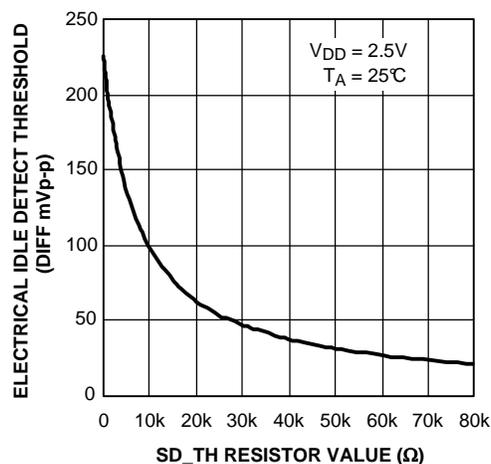

Figure 1. Typical Idle threshold vs SD_TH resistor value
(1) SD_TH resistor value can be set from 0 through 80K Ohms to achieve desired idle detect threshold, see Figure 1. 8K Ohm is approx 130mV.